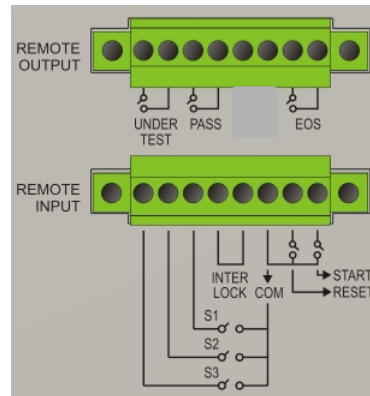

Figure 4-19
5. Pin diagram of REMOTE CONTROL as *Figure 4-19*. When users desire to control by external, please remember this pin diagram.